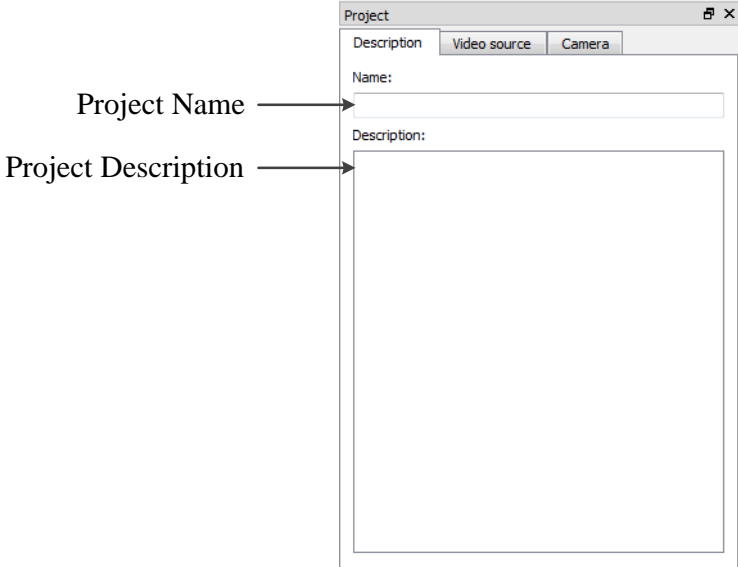

Figure 4 : General project navigator tab
- 1. A Description tab, used to specify the project name and description as shown in Figure 4.